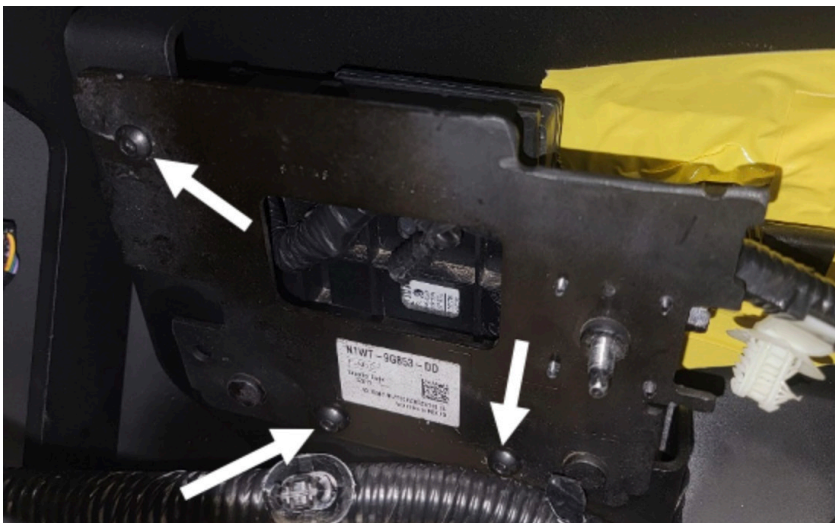

Figure 28
26. Reattach the ACC sensor onto its modified bracket and plug the sensor into the harness before attaching it to the bumper. Place the ACC bracket onto the bumper bracket and use the provided 3x Button Head Cap Screws to attach it to the bumper. Advised to use the provided 242 threadlocker on the bolts. Figure 28.